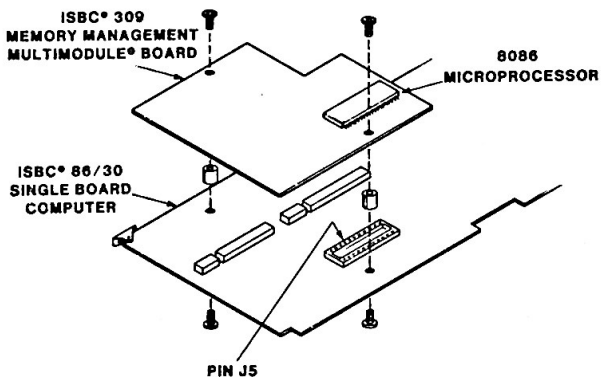

Figure 4-2. Hardware Mounting Technique
6. Using two of the spacers and screws provided, install them into the solder side of the iSBC 309 board, refer to Figure 4-2.